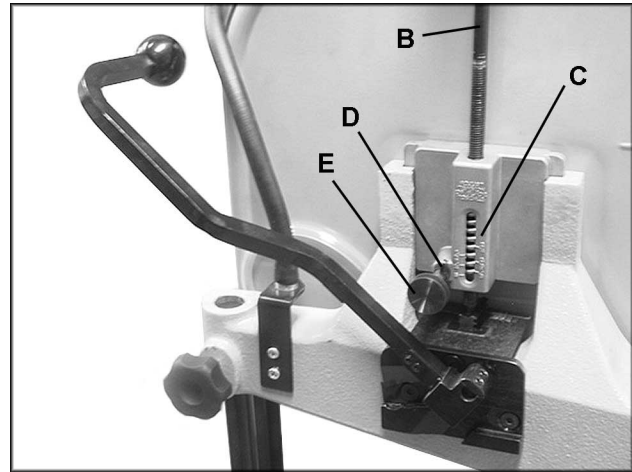

Fig. 25
2. Place tension lever in the highest position, as shown in Figure 25. Turn blade tension knob (B, Fig. 25) clockwise to tension blade. A gauge on the upper wheel slide bracket (C, Fig. 25) indicates the approximate tension according to the width of the blade. Initially, set the blade tension to correspond to blade width.
3. If adjustment is necessary, loosen wing nut (D, Fig. 25) and slightly tighten knob (E, Fig. 25) to move blade toward the **rear** of machine. Slightly loosen knob (E, Fig. 25) to cause the blade to track toward the **front** of the machine.
4. Tighten wing nut (D, Fig. 25) after blade is tracking in the center of the wheel.